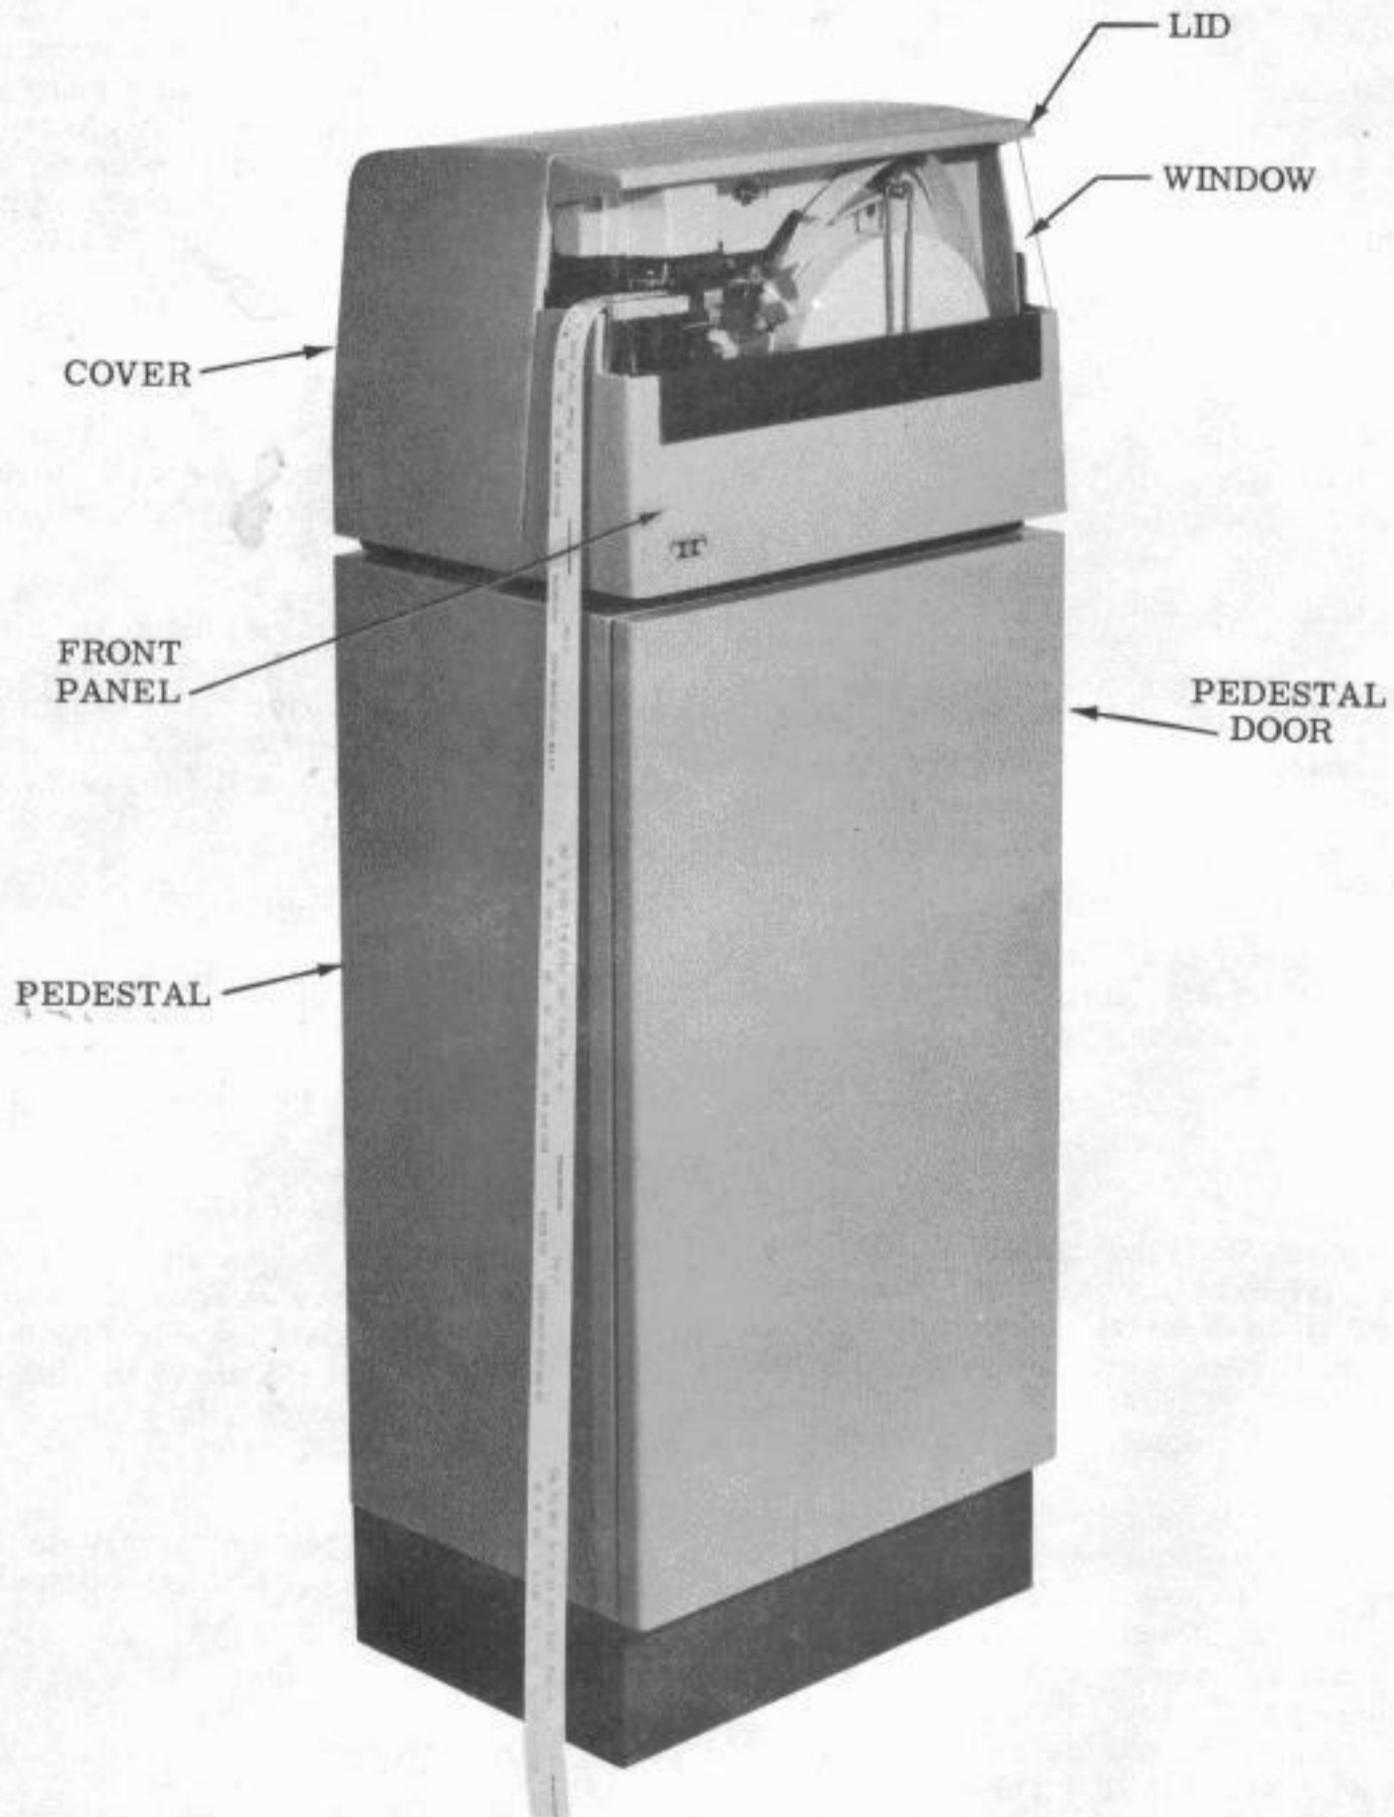

Figure 1 - Tape Printer Set (Stock Ticker) on Pedestal
1.02 The pedestal is a companion unit for the cover. It stands approximately desk high and serves as a mounting for the Tape Printer Set (see Figure 1).
4. ADJUSTMENTS (Refer to Figure 1)